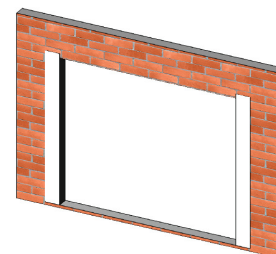

Figure 2:
- At each Jamb the flashing paper should be cut at least 3" past the weep-screed or diado flashing and at least 6" above the head of the door. The flashing must wrap around the jamb and at least 3" back into the opening (Figure 2).